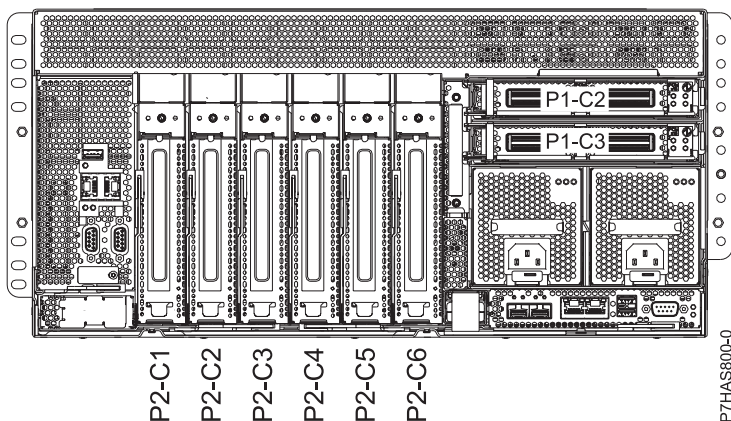

Figure 1. Rear view of the system with location codes
- The GX adapters are installed in GX slot P1-C2 or P1-C3, which is located at the rear of the system. See Figure 1 for the location of the GX adapter slots in the system.
- Feature code (FC) 1808 (GX++ 12X DDR Dual-port IB Adapter) and FC 1914 (GX++ 2-port PCIe2 x8 Adapter) are supported for the 8248-L4T, 8408-E8D, or 9109-RMD system.